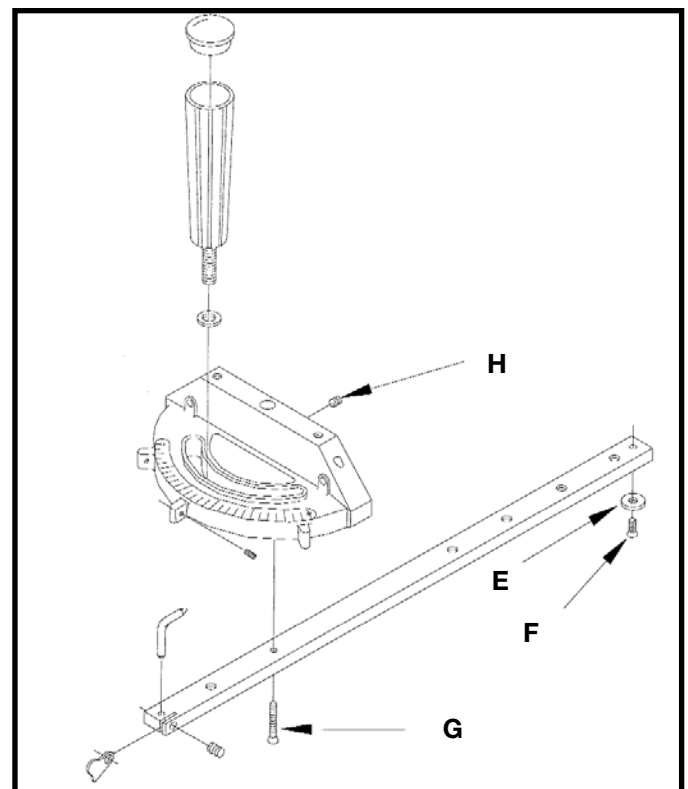

Fig. 58
5. The miter gage is equipped with a special washer (E) Fig. 58, and flat head screw (F), which are to be assembled to the end of the miter gage bar.
6. The head of the miter gage pivots on a special tapered screw (G) that **fastens** the head to the miter gage bar. If the miter gage head does not pivot freely, or pivots too freely, adjust it by loosening set screw (H) Fig. 58, and turning the screw (G), in or out. **Be certain to tighten screw (H) after adjustment is made.**